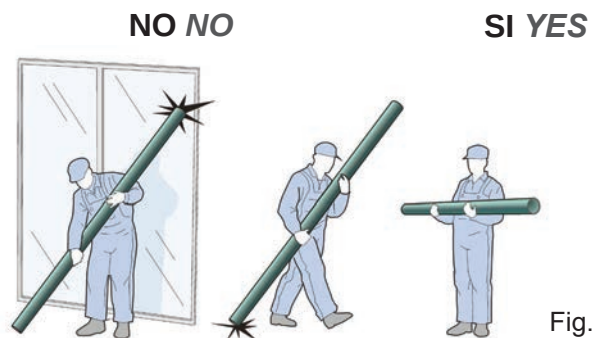

Fig. 2
Evitare lo strisciamento in terra o sulle pareti dell'automezzo (Fig. 2).
*Avoid dragging pipes on the ground or against the sides and tailgate of the vehicle (Fig.2).*